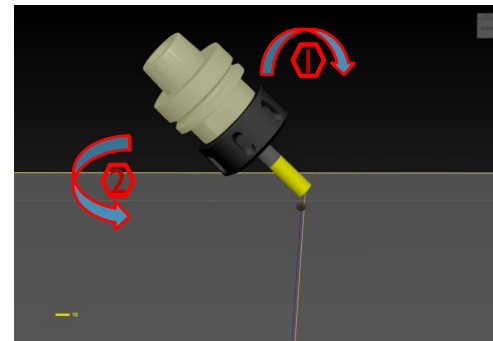

Figure 2
- **Angle AZ:** it specify the tool tilt angle in relation to the geometry drawn on the piece face (*Figure 2, 1*).
- **Angle AR:** it specify the tool rotation angle (*Figure 2, 2*).